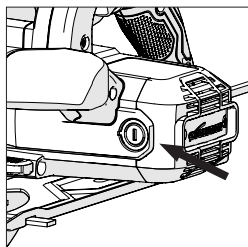

Fig. 18
- Unscrew the plastic caps found at the back of the motor housing. (**Fig. 18**) Be careful as the caps are spring-loaded.